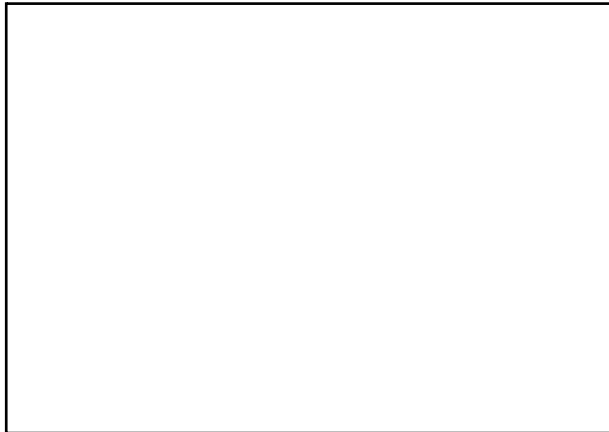

Fig. 1
After replacement of the brake linings or after mechanical release of the parking brake 1, Fig. 1), the play between brake linings and brake disk must be readjusted.
- Put screw cap (2, Fig. 1) back in place and tighten by hand.
- Unscrew screw cap (2, Fig. 1) and remove.